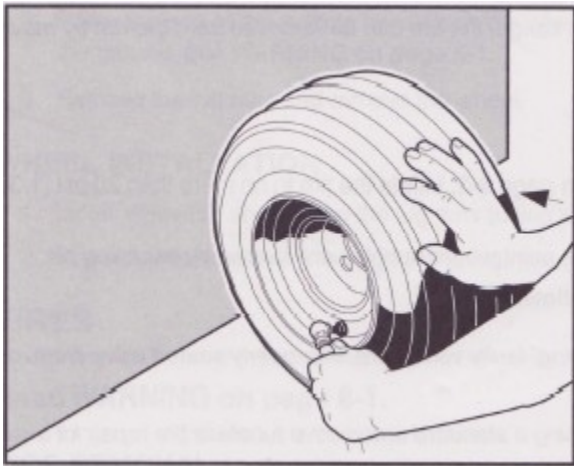

Figure 8-2
6. Place tire and wheel assembly against wall in upright position and push it against wall while inflating tire to 30-35 psi (2.07-2.42 Bars). The three-point contact (wall, floor, and hand) will help ensure that beads snap into place and form a proper seal as tire is inflated (Figure 8-2). See following.